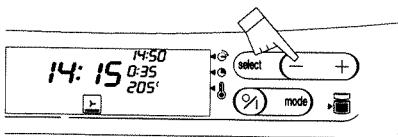

Fig. 7
5. Press the  touch controls to set the cook time required (fig. 7). (Up to 10 hours maximum).